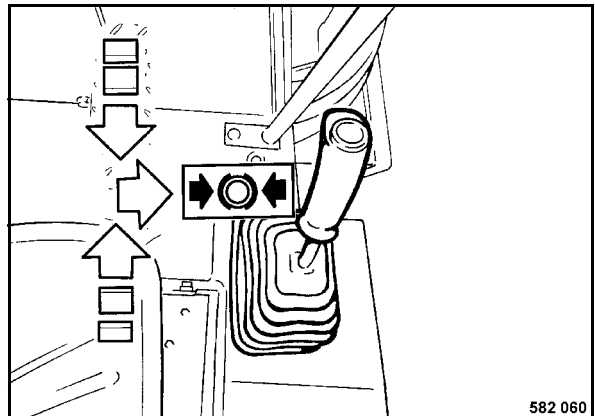

Fig. 39
- Return the travel lever (Fig. 39) slowly to "neutral"-position and engage it to the right in braking position.